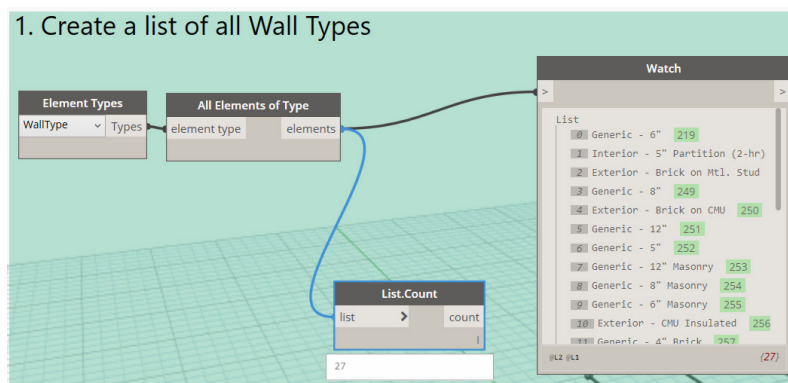

FIGURE 44
29. Wire them up as shown in Figure 44.